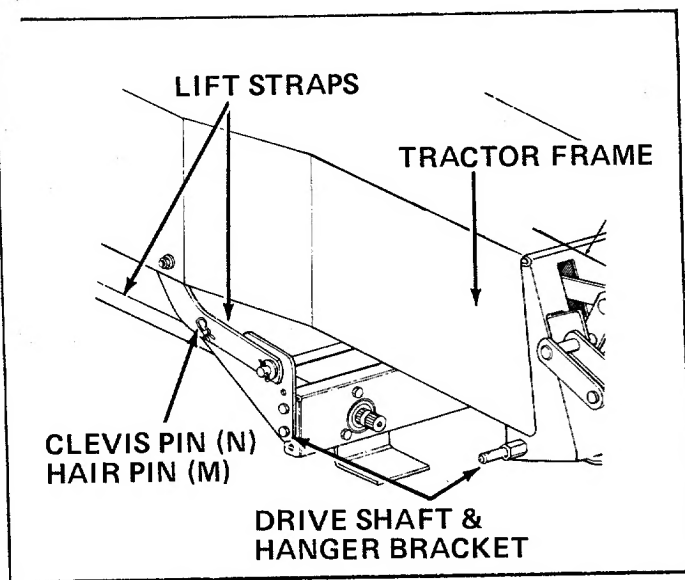

FIGURE 16
6. Secure drive shaft and hanger brackets to linkage kit as shown in figure 16. Clevis pins (N) and hair pins (M) are assembled through the hanger brackets and both lift straps.